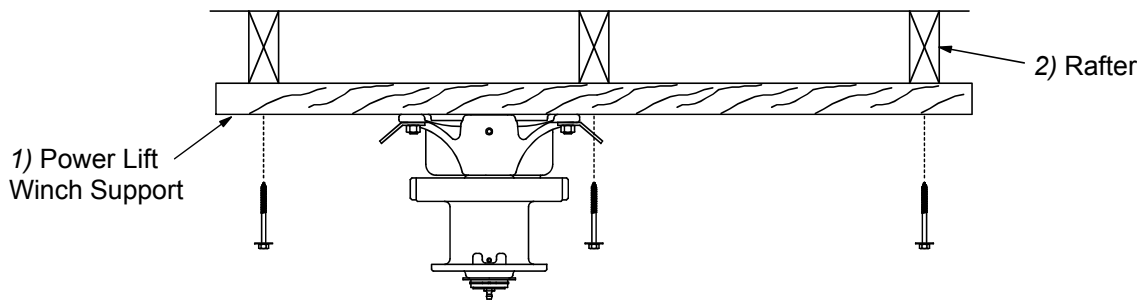

Figure 7. Mounting the Power Lift Winch and Support to the Rafters
2. Attach the Power Lift Winch Support (with the Power Winch secured) to the ceiling at the center of the feeder line. See **Figure 7**. The Power Lift Winch Support must be parallel to the feeder line and must span at least 3 rafters in a wood frame house and 2 rafters in a steel frame house.